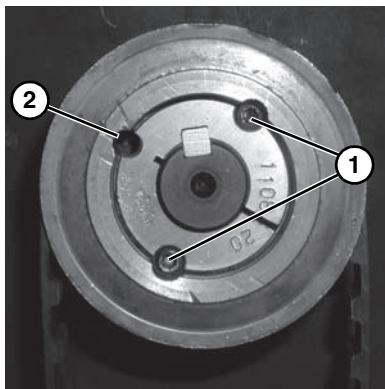

Figure 14
2. Remove taper-lock screws (**Figure 14, item 1**). Insert one (1) of taper lock screws in remaining hole (**Figure 14, item 2**). Tighten screw until pulley is loose. Remove pulley and taper hub assembly.